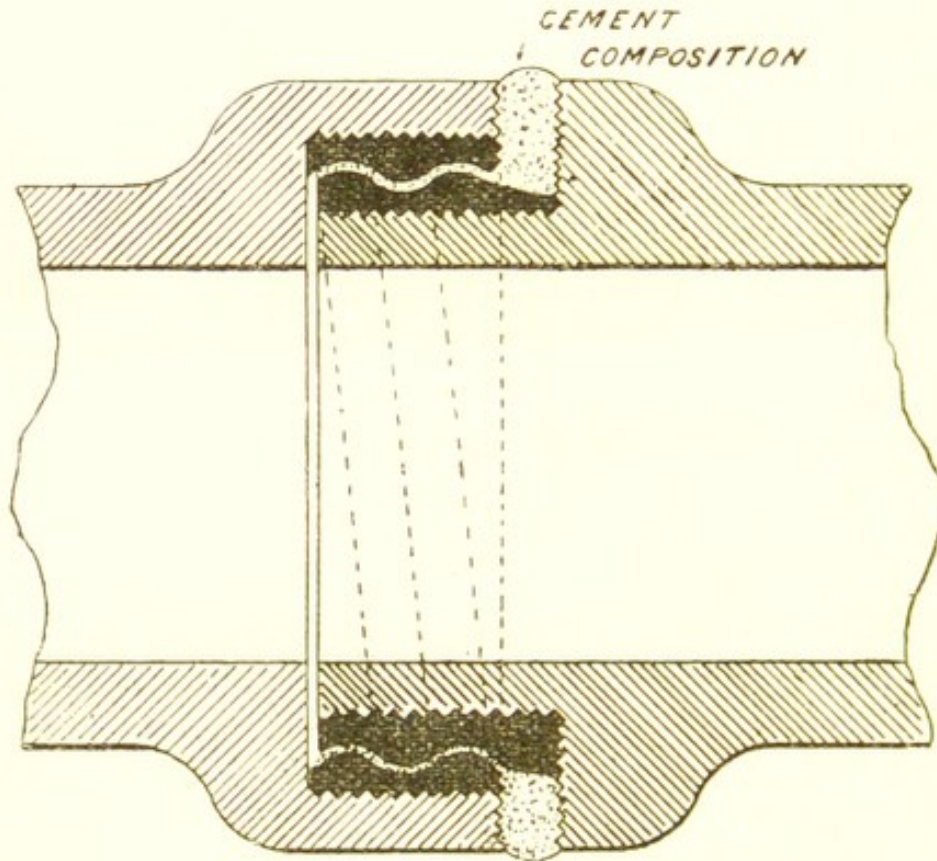

FIG. 11.
*Sykes' Patent Joint* (Fig. 11) is made by casting on the